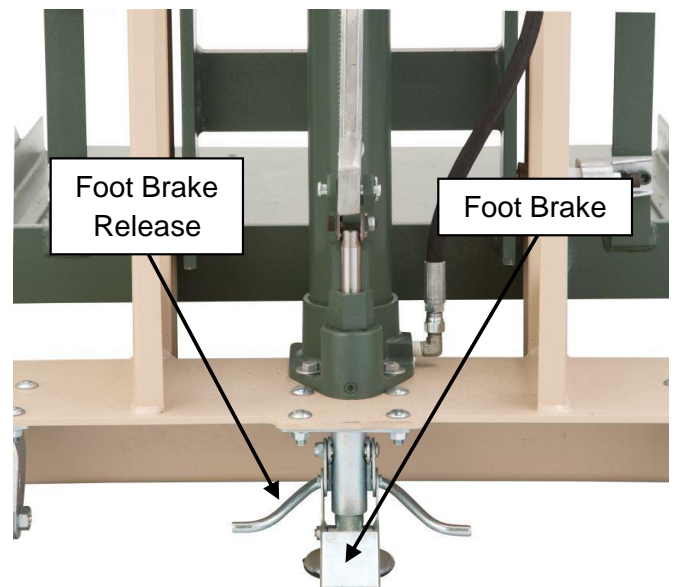

Figure 13: Lift truck foot brake
2. With the lift truck platform at ground level and the foot brake engaged (see Figure 13). Push the interlock release handles on the breaker inward and roll the breaker onto the lift truck. Roll completely onto the platform until the locking tabs engage the locking slot (see Figures 14 and 15).